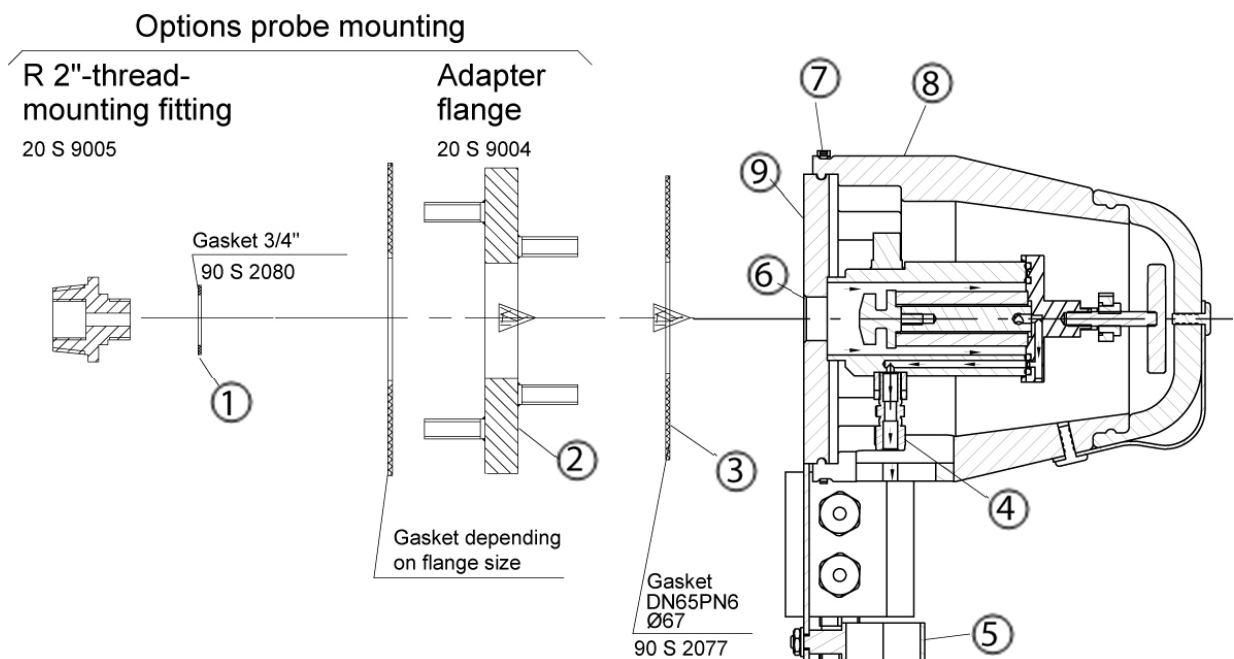

Figure 2 **Mounting of the SP180-H-EX2 T***
The M&C SP180-H-EX2 T* probe is designed for stationary use. The professional choice of the right sample probe for the application and the professional installation guarantees a long service life and minimum maintenance work. The ideal position for mounting the sample probe is horizontally with a tilt angle of 10 % towards the process. Please follow these installation steps and see details in Figure 2.
- Screw the sample probe tube directly into the $\frac{3}{4}$ " inner thread ⑥ of the probe flange and tighten it.
- To mount the SP180-H-EX2 T* at the sampling flange, please loosen the metal clamp ⑦ around the heat insulating protection cover and remove the cover ⑧.
- If the probe connection is not the same size as the standard flange connection DN65 PN6, an adapter flange ② (optional) should be mounted to the probe (see Figure 2). Place the gasket ③ between the adapter flange and the probe flange.
- If the heated probe tube type SP30/35 is used then the probe is to be screwed to its flange (with welded threaded bolt). First insert the flange seal ③ between the two flanges.
- Attach the flange seal ③ to the probe connection.
- After mounting of the probe at the sampling flange put the heat insulating protection cover ⑧ over the probe flange again and secure it with the metal clamp ⑦.